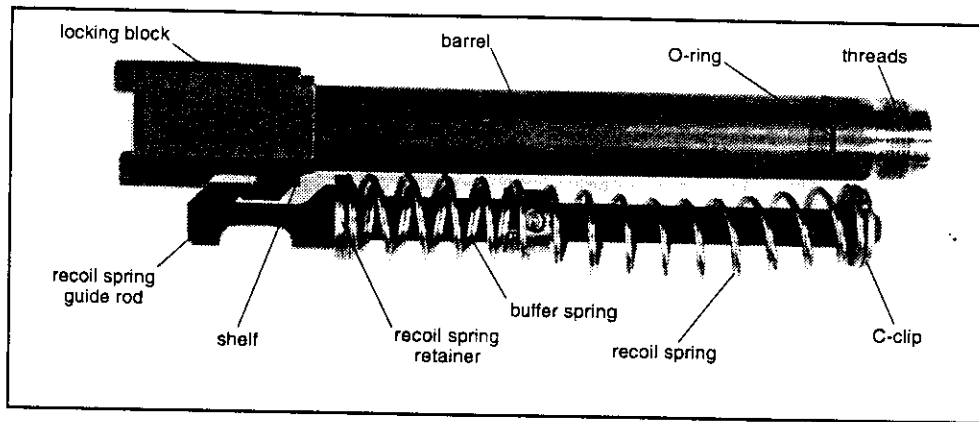

Figure 13
5. Push the rear of the recoil/buffer spring assembly forward enough so that the recoil spring retainer can be engaged on the shelf provided on the front of the barrel locking block (See Figure 13).